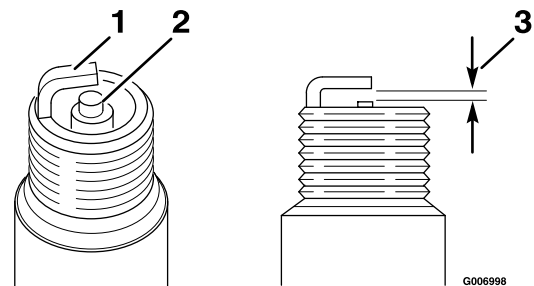

Figure 36
1. Look at the center of the spark plug (Figure 36). If you see light brown or gray on the insulator, the engine is operating properly. A black coating on the insulator usually means the air cleaner is dirty.
2. Check the gap between the center and side electrodes (Figure 36). Bend the side electrode if the gap is not correct.